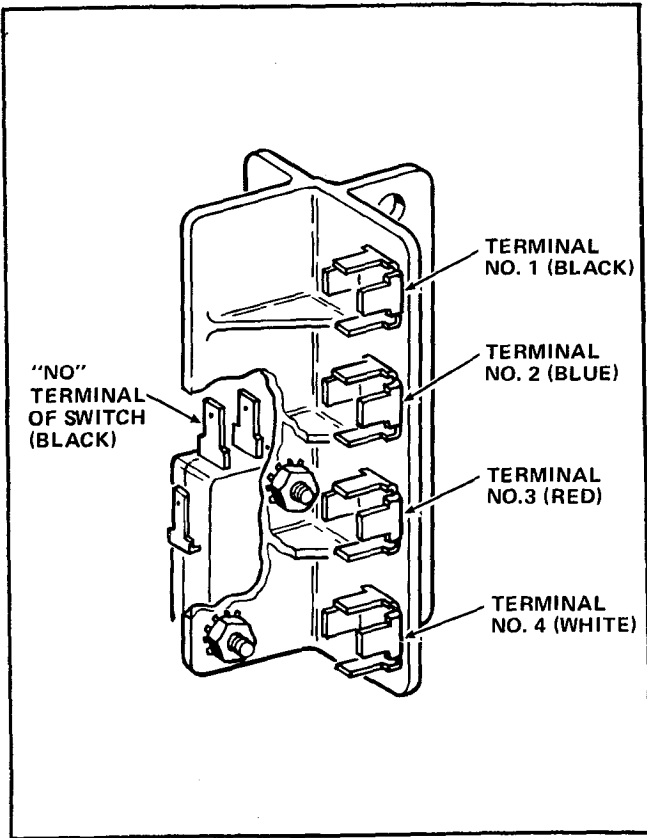

FIGURE 5
9. The terminals of the Terminal and Follower Assembly are numbered 1 through 4, top to bottom, in Figure 5. Connect the wires to the four terminals as follows: